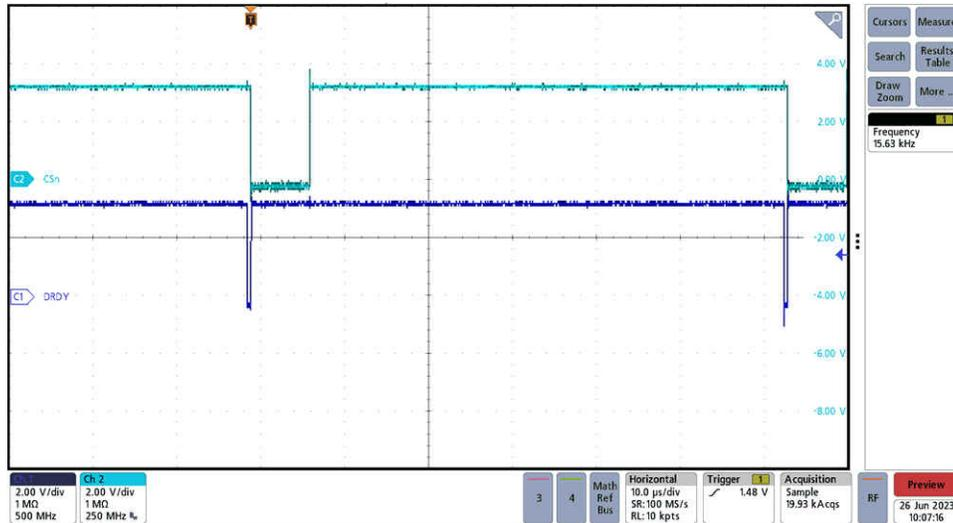

Figure 3-12. CSn and DRDY Signals of the External ADC
4. Check *DRDY* signal of the external ADC if the frequency is 15.625 kHz using an oscilloscope. Figure 3-12 shows the *DRDY* and *CS* signal of ADS131M08 when the MCU is running.